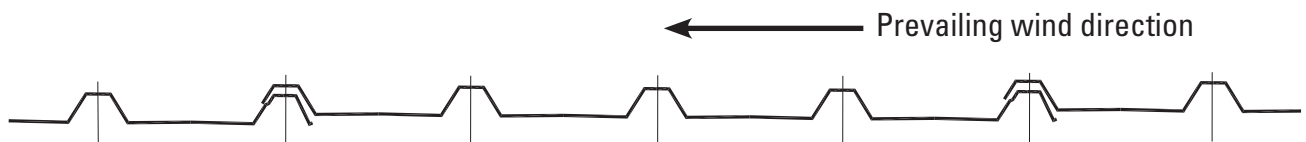

Figure 27
- For positioning the sheet along the projection gutter (side), fit sheet and screw through the first pan of the sheet into the gutter return lip. (Figure 27)
- Fit light panel two (2) steel sheets in from projection gutters and keep a minimum of two (2) steel sheets between panels.
- Fit light panel over top of steel sheets by two (2) crests.